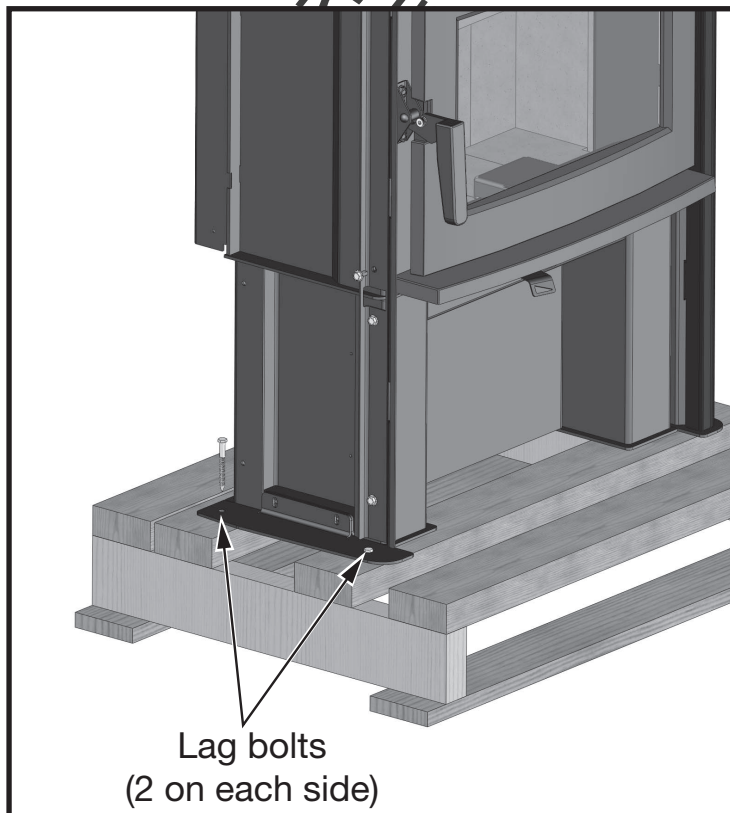

Figure 2: NEO 1.2 pallet removal.
3. Using a 7/16" (12mm) wrench, remove lag bolts that secure hold down brackets to bottom pallet (Figure 2).